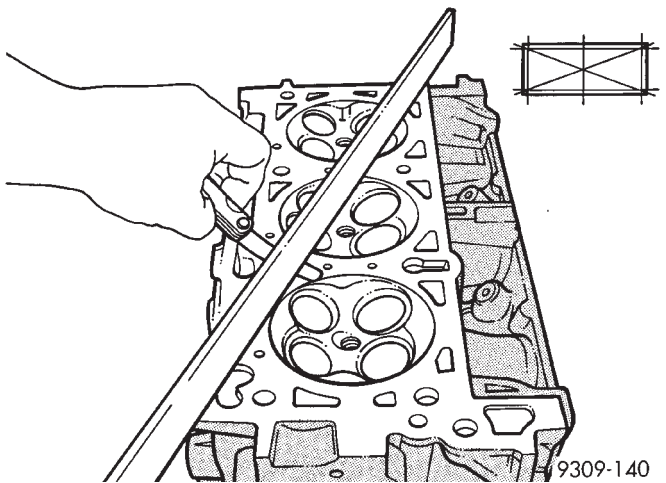

Fig. 108 Checking Cylinder Head Flatness
- (1) Before cleaning, check for leaks, damage and cracks.
- (2) Clean cylinder head and oil passages.
- (3) Check cylinder head for flatness (Fig. 108).
- (4) Cylinder head must be flat within: